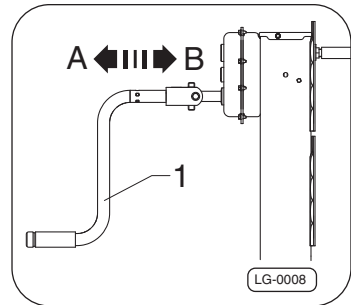

Fig. 10 · change gear
The high gear –pos. A–Fig. 10 is used to bridge the passage between the drive position and the floor.
The low gear –pos. B–Fig. 10 is used to raise and lower the trailer vehicle.
Pull or push the crank handle –item 1– Fig. 10 into the desired gear The gear engages noticeably into place.